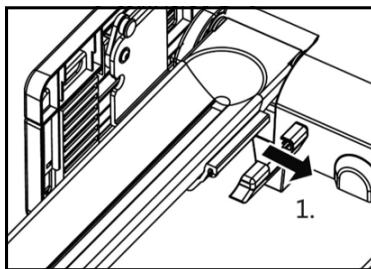

Figure 3: Mounting aluminium adaptor
To attach the additional wheel track to the bike carrier, the aluminium adaptors (item 2 of the scope of delivery) must be mounted on the rear wheel track of the bike carrier. Attach the aluminium adaptors as shown in figures 3 to 6.